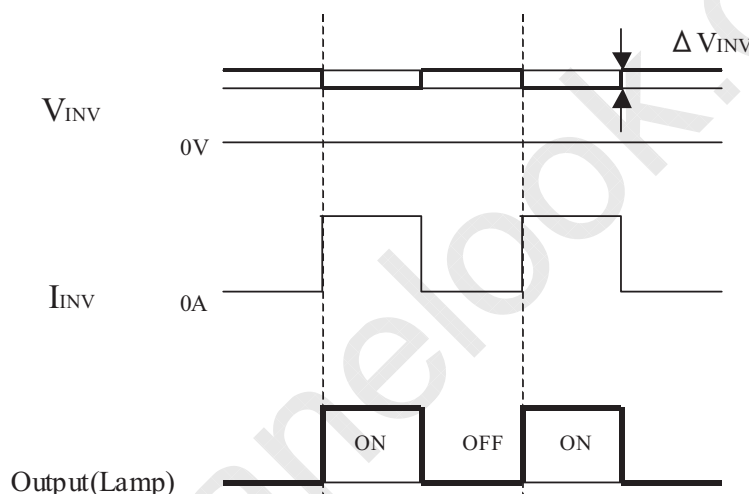

Fig.5 Brightness control and ripple of  $V_{INV}$
- Brightness control voltage is switched for "ON" and "OFF", as shown in Fig.5. Voltage difference generated by this switching,  $\Delta V_{INV}$ , may affect a sound output, etc. when the power supply is shared between the inverter and its surrounding circuit. So, separate the power supply of the inverter circuit with the one of its surrounding circuit.